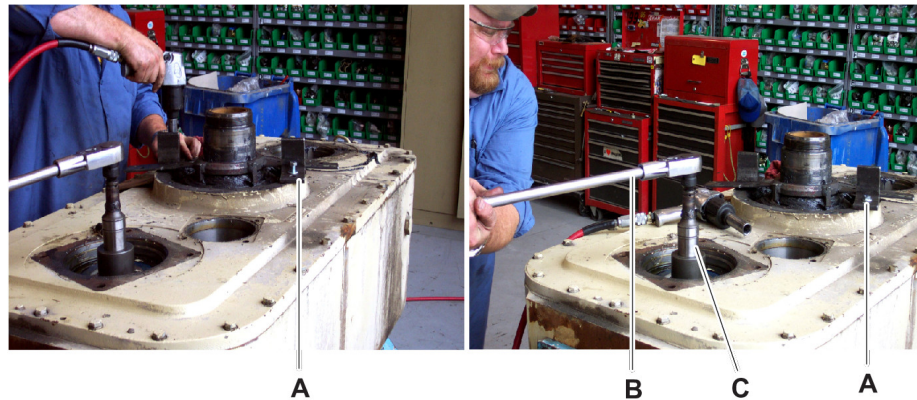

Figure 11
11. Use the lock nut adjustment tool (Figure 11, item A), input pinion tool, and ratchet to remove the upper bearing adjusting nut.